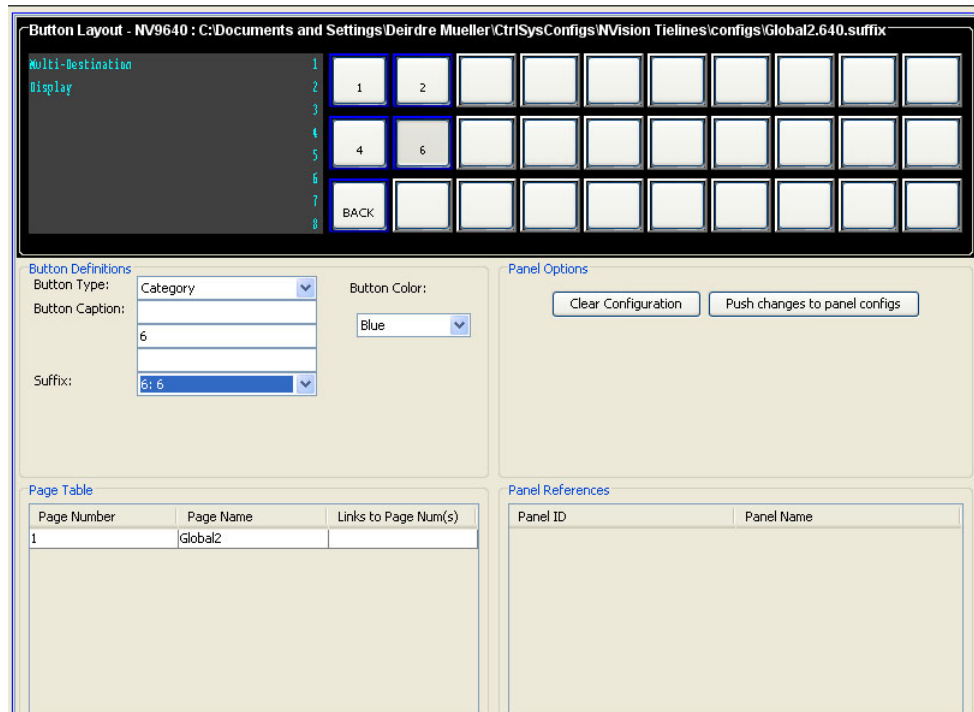

Figure 10-13. Global Suffix Page template
- 3 Locate the control panel with the word “Suffix” appended, which denotes a Global Suffix page. Click anywhere in the row and then Edit Selected Control Panels. The Global Suffix page editor appears displaying current Global Page details, as shown in Figure 10-13.